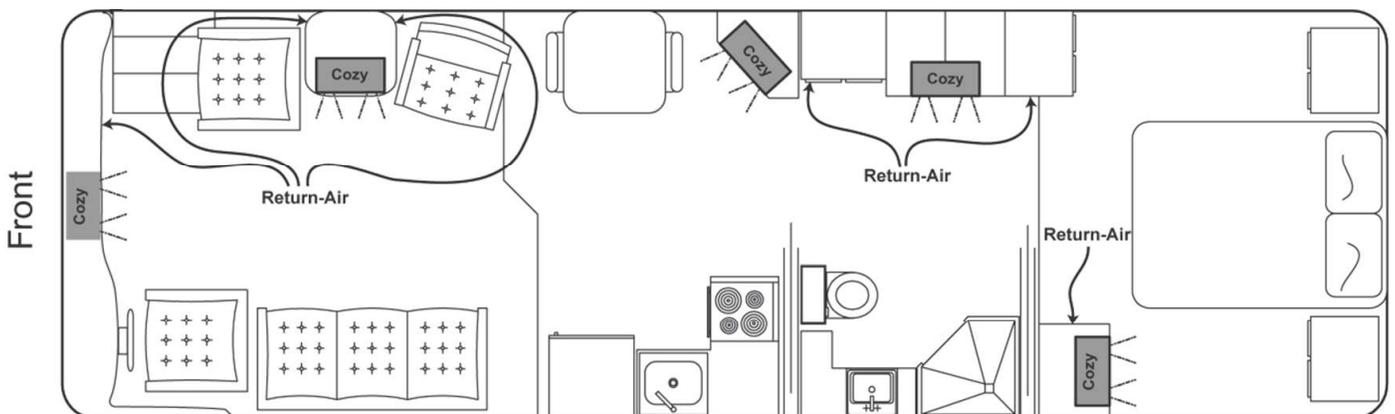

Figure 129
- Must be cold air returns installed for every heat exchanger (reference Figure 129).